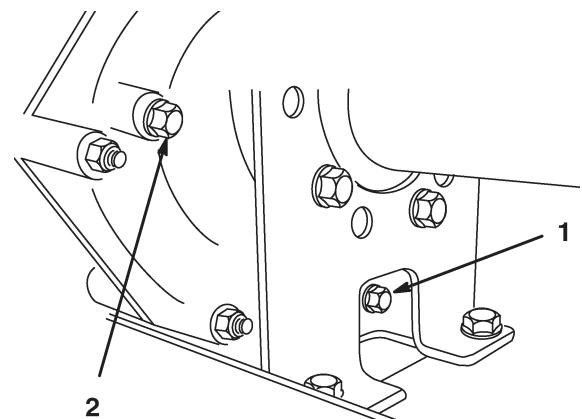
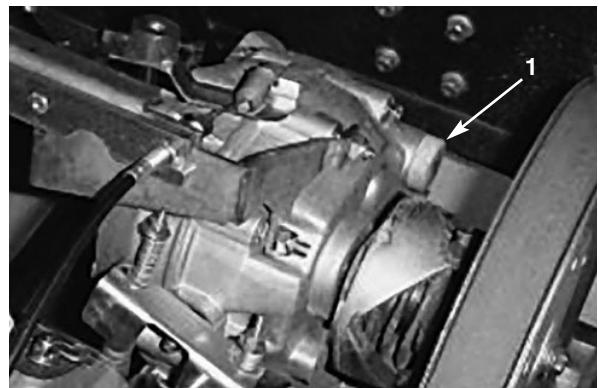

Figure 30
Figure 31
- Fill the reservoir (Fig. 31) with approximately 1-1/2 qt. (1.4 liters) of SAE 10W30 motor oil or until the oil level is at the bottom of the level indicator hole (Fig. 30).
- Remove the drain plug from the right side of the reservoir (Fig. 30) and let the fluid flow into a drain pan. Install and tighten the plug when the fluid stops draining.